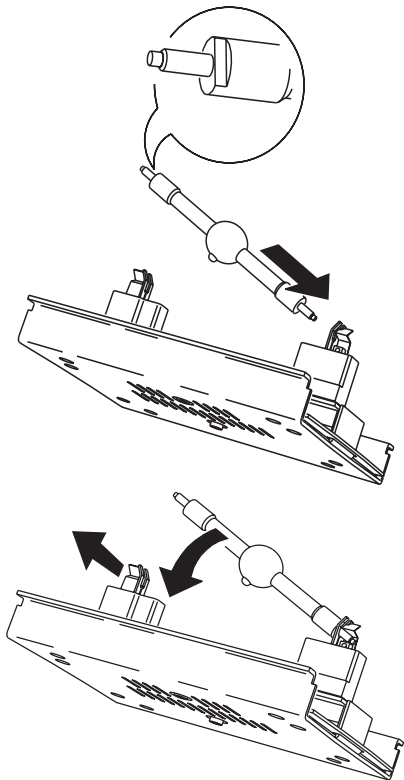

Figure 6: Lamp insertion
The ends of the lamp have specially-developed keys, shown in Figure 6, to ensure proper installation. Do not use HMI 1200 W/S lamps with the non-keyed SFC 10-4 base.
- 4 See Figure 6. With the nipple on the bulb facing the back, insert the right end of the new lamp in the socket. Pull up on the left spring and snap the other end into place.